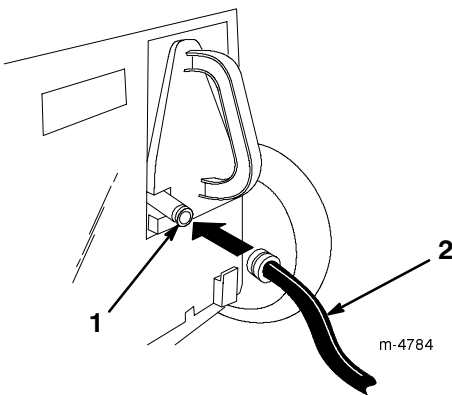

Figure 18
3. Lift the rear door and attach the coupling to the lawn mower washout fitting on the recycling plug (Fig. 18).